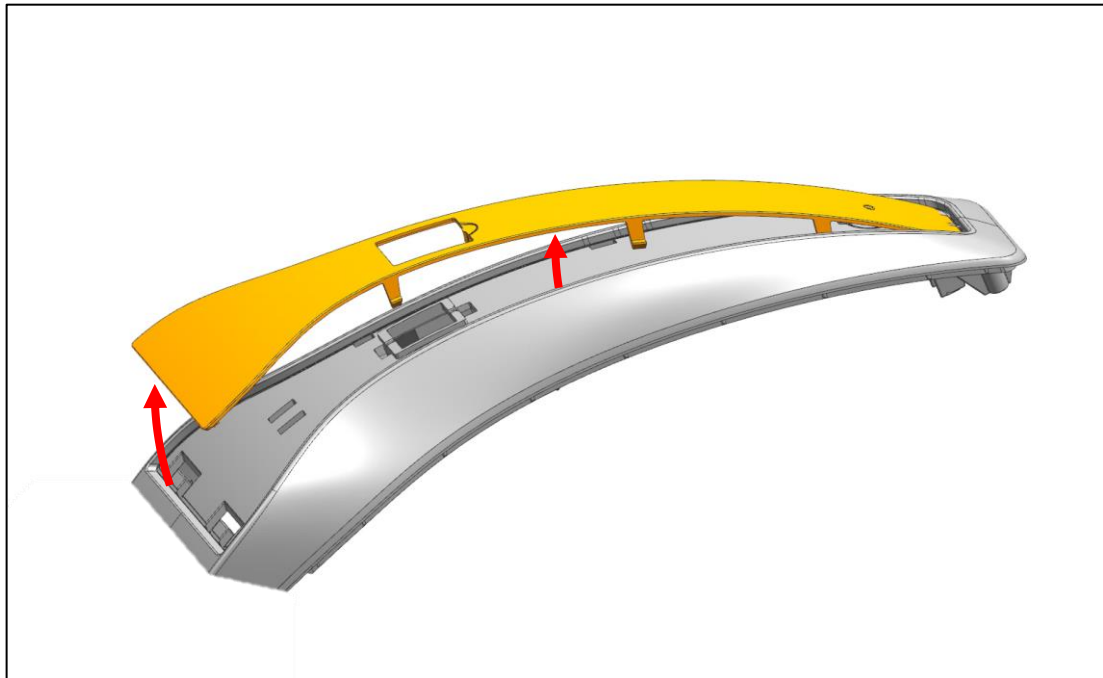

Fig. 17
c) Push the cover upwards slightly (Fig. 17).